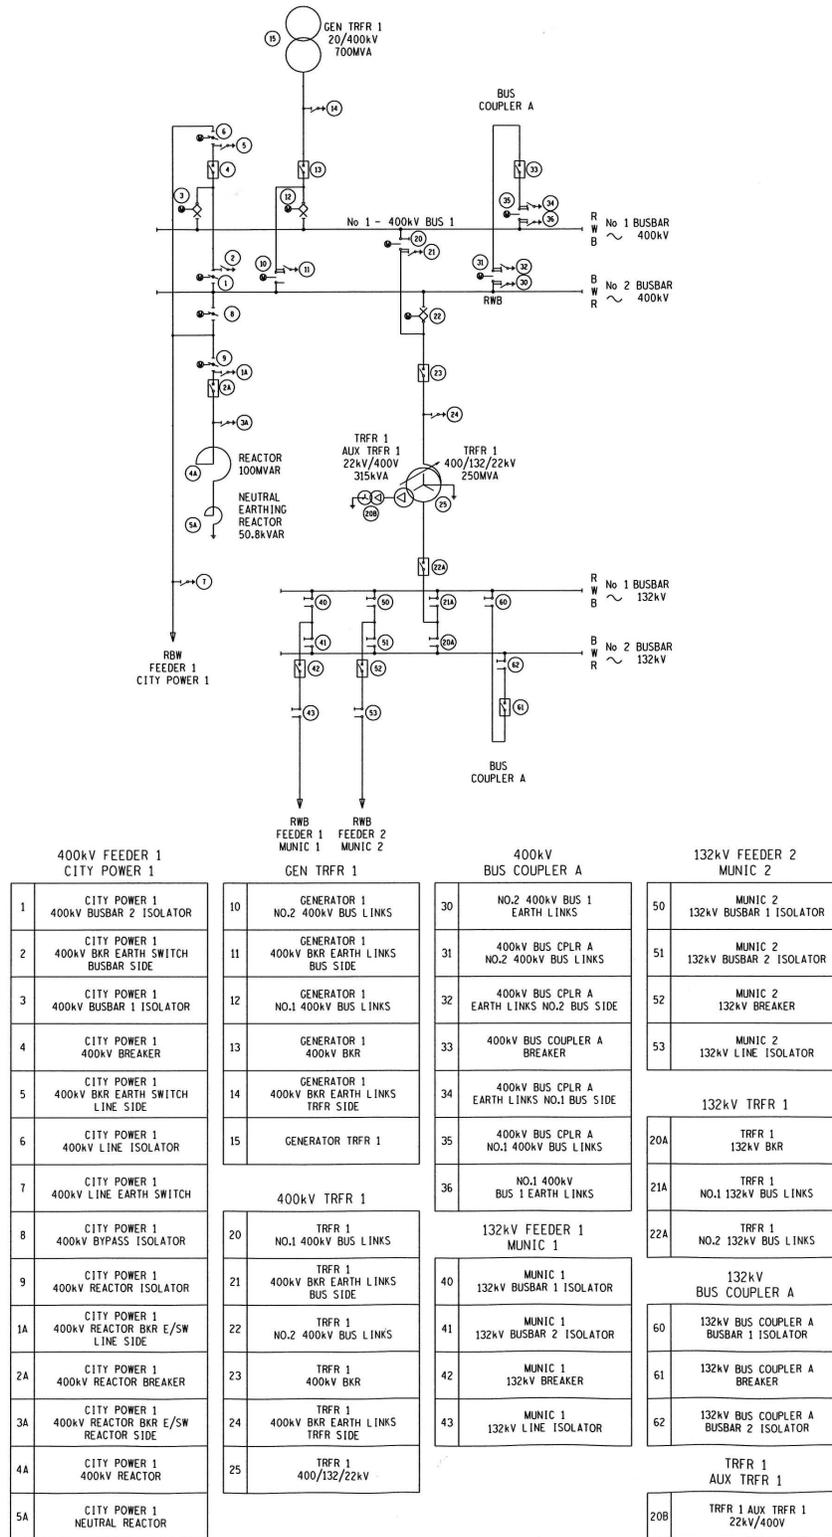

Figure 1 - Example of an Operating Diagram
1. All HV equipment shown on the Operating Diagram shall be numbered as shown in Figure 1.